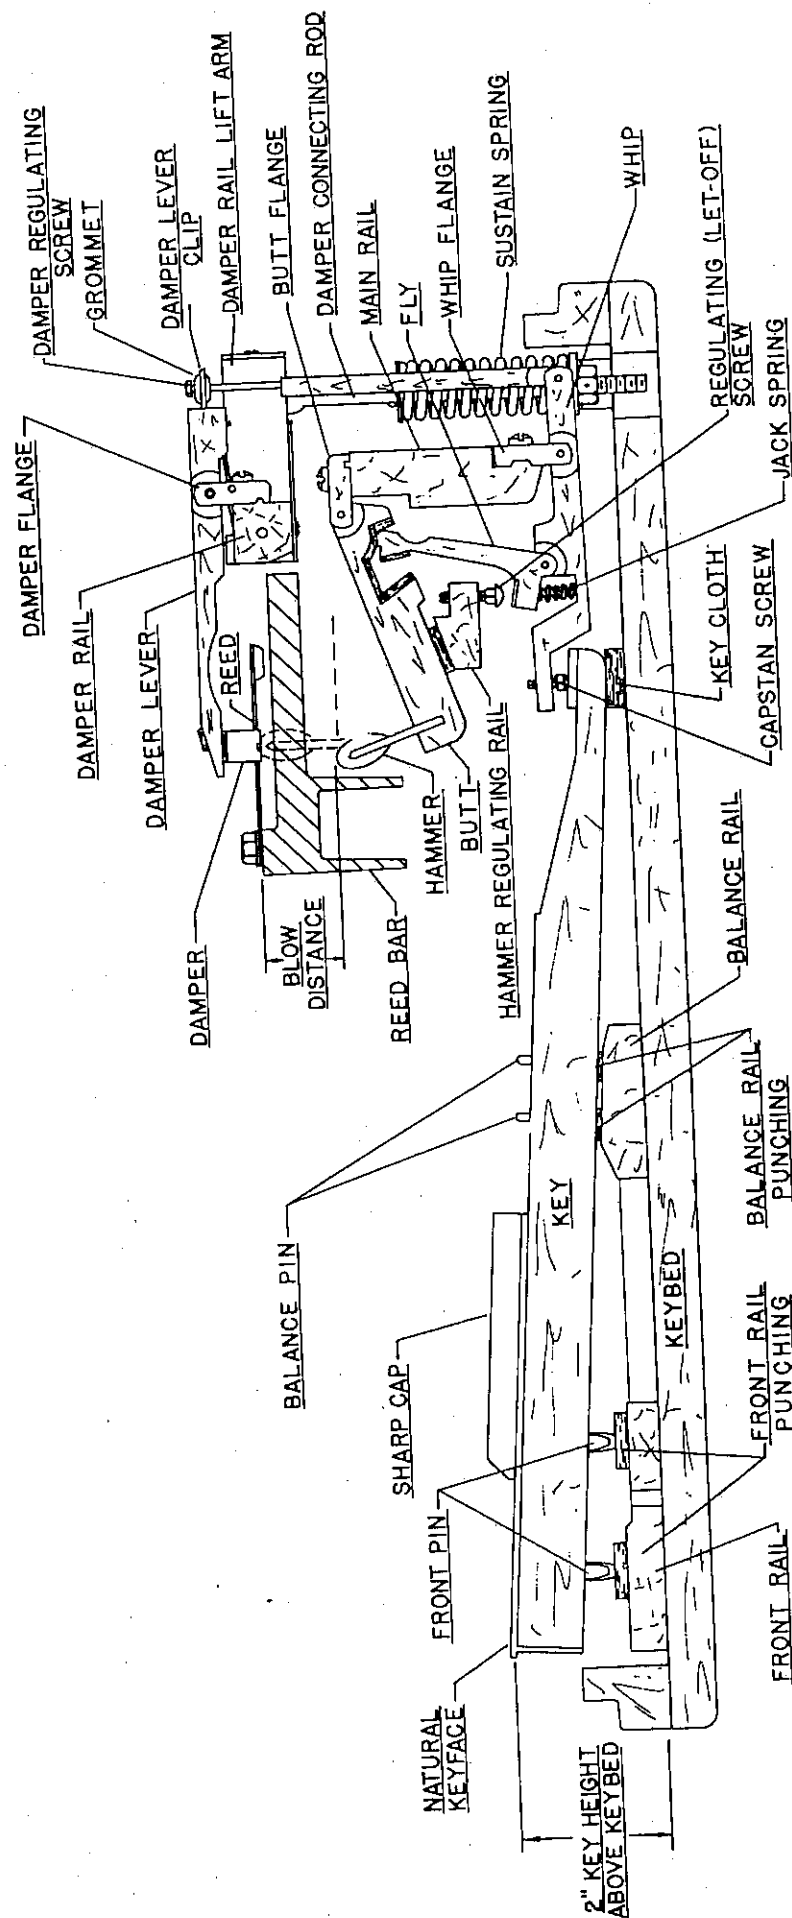

FIG. 2
C. Inside the case you will find a covered board with elastic straps designed to hold the piano legs and the expression pedal (fig. 2). During initial shipment of the empty case, this board is secured by two metal clamps located at each end. Using a Phillips screwdriver, remove these clamps (fig. 3) and dispose of them. Now take the board out of the case.
1. Unplug the input cable at the bass end of the printed circuit board. (SEE FIG. 2 Page 4.)
3. Unplug the white plastic plug behind the speaker plug, located on the left side of the chassis assembly. (SEE FIG. 2 Page 4.)
5. Remove the Pre Amp Board located at the top center of the reed bar, by loosening the two (2) 1/4" hex head screws. (200A only)
1. KEYBOARD INSPECTION (SEE FIG. 2, Page 8):
A. Butt Assembly (SEE FIG. 2, PAGE 8)
B. Damper Assembly (SEE FIG. 2, PAGE 8)